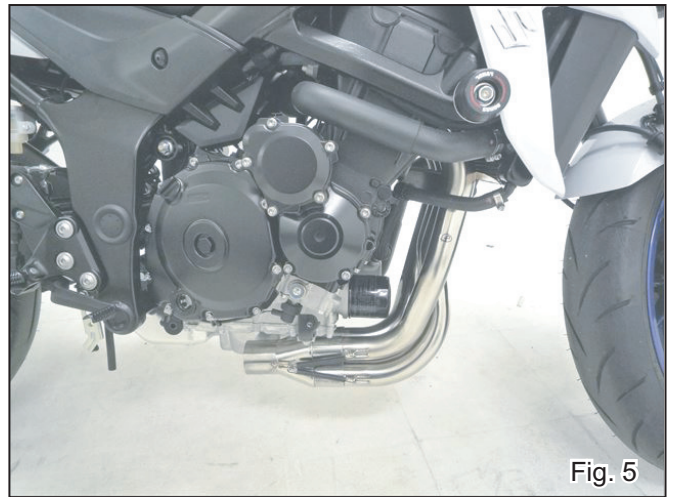

Fig. 5
- 7) Replace exhaust gaskets on all the exhaust ports with new ones and mount Exhaust Pipes assembly which is completed at Step 5 to exhaust ports and fix it with 8 of stock bolt. Tighten bolts by hand only at this stage. (See Fig. 5 & 6)